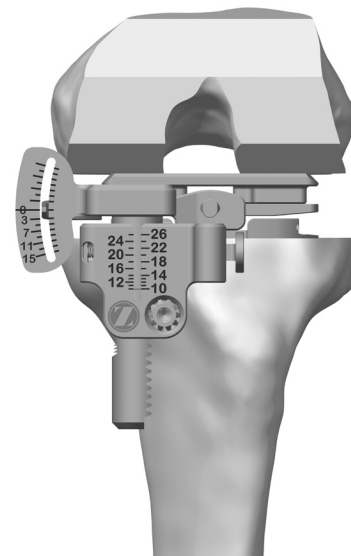

Fig. 55
- The +9mm *Zimmer FuZion* Femoral Paddle can be attached to the *Zimmer FuZion* +0mm Femoral Paddle and used with the *Zimmer FuZion* Tensor to check the flexion gap after resection (Fig. 55).